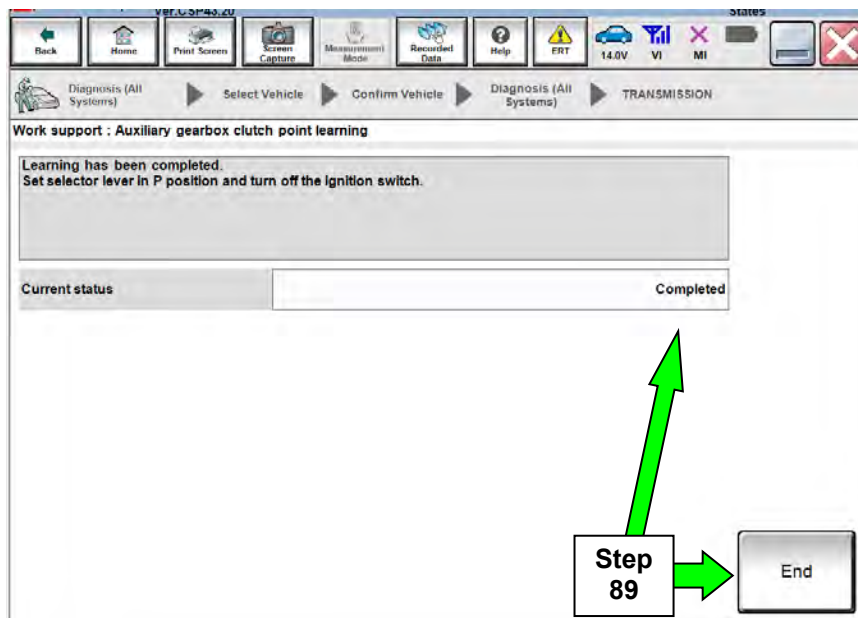

Figure 48
88. Continue to depress the brake pedal until the **Current status** shows “Completed” as shown in Figure 48 at the bottom of this page.